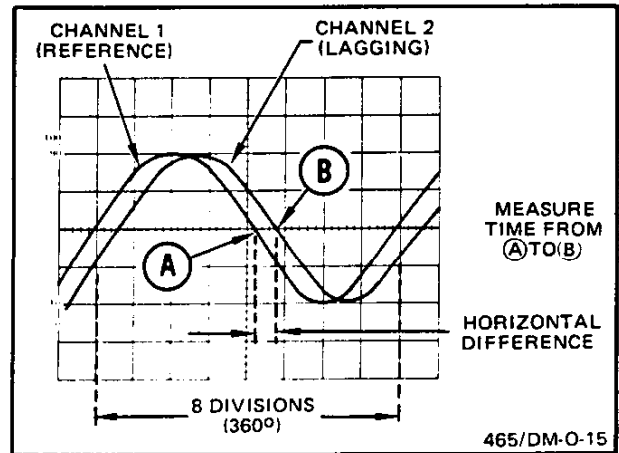
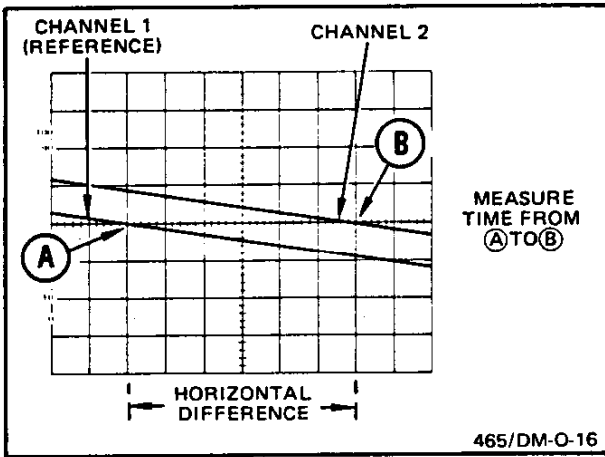

Figure 18. Phase difference.
Figure 19. High-resolution phase difference.
9. Position the displays and adjust the A and B SEC/DIV Variable control so that one reference-signal cycle occupies exactly 8 horizontal graticule divisions at the 50% rise-time points (see Figure 18). Each division of the graticule now represents  $45^\circ$  of the cycle ( $360^\circ \div 8$  divisions), and the horizontal graticule calibration can be stated as  $45^\circ$  per division.
**EXAMPLE:** The horizontal difference is 0.6 division with a graticule calibration of  $45^\circ$  per division as shown in Figure 18.
**EXAMPLE:** If the sweep speed were increased 10 times with the magnifier (X10 Magnifier out), the magnified horizontal graticule calibration would be  $45^\circ$ /division divided by 10 (or  $4.5^\circ$ /division). Figure 19 shows the same signals illustrated in Figure 18, but magnifying the displays results in a horizontal difference of 6 divisions between the two signals.